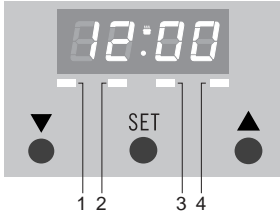

fig. 4
After the appliance has been connected, or when the power supply has been interrupted, the display will show '12.00'. LED 4 is blinking (see fig. 4). The time of day can be set.
- Press 'SET' until LED 1 blinks (see fig. 4).
- Press key ▼ or ▲ until the correct minute minder time has been reached. The set time will stay on the display. LED 1 lights up steadily (see fig. 4).
- Press 'SET' until LED 2 blinks (see fig. 4).
- Press 'SET' until LED 3 blinks (see fig. 4).
LEDs 2 and 3 light up steadily (see fig. 4). The time of day will be displayed. The oven gives a signal when the set time has been reached and automatically switches off.